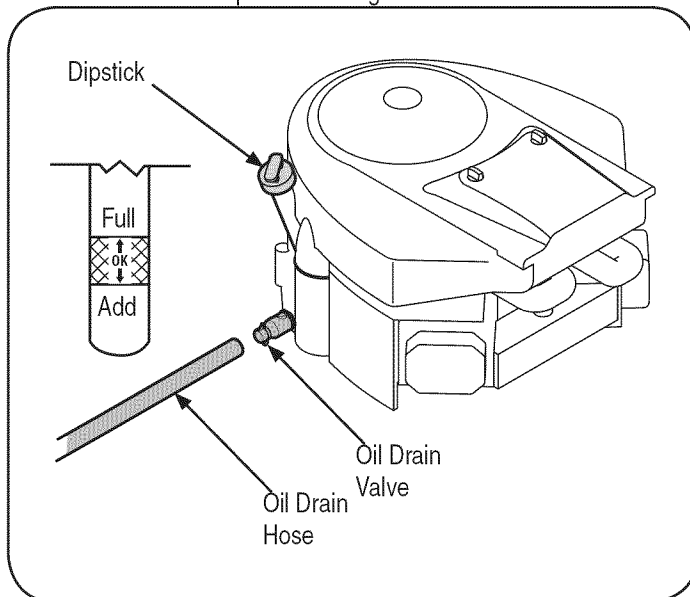

Figure 7
5. Remove the dipstick and check the oil level. It should be at the Full mark on the dipstick. See Figure 7.
2. Pop off the protective cap on the end of the oil drain valve to expose the drain port. See Figure 7.
3. Remove the oil fill cap/dipstick from the oil fill tube. See Figure 7.